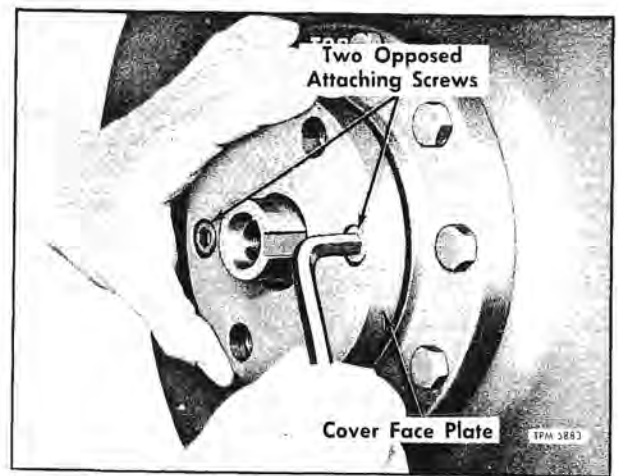

Figure 71—Removing Seal Cover Face Plate
1. Loosen and remove all but two opposite head cap screws (56) which attach seal cover plate (57) to front bearing head (60). Slowly and alternately back out the remaining two cap screws (fig. 71). Seal cover plate should be forced away from bearing head by tension of shaft seal spring. However, if plate does not follow the two cap screws,